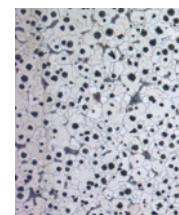

Fig. 1b
- For example: In the heat affected-zone hardening caused by martensite formation was found (Fig. 1b). This significantly reduces the ductility of the cylinder head and can possibly create further cracks. (see figures below)